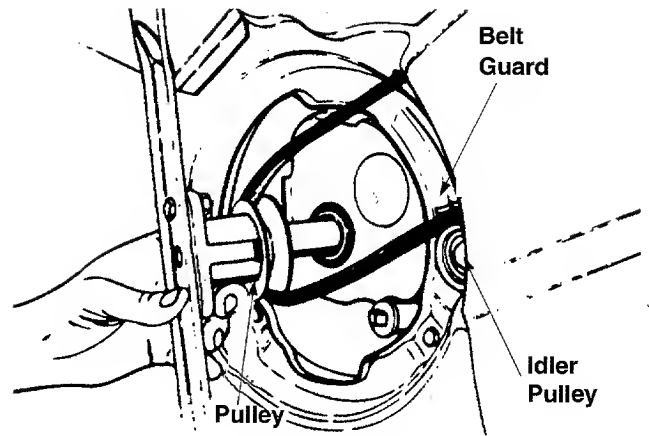

Figure 20
7. Loosen (do not remove) the bolt which secures the idler pulley so you can remove the belt from between the idler pulley and the belt guard on the idler pulley bracket. See Figure 20.